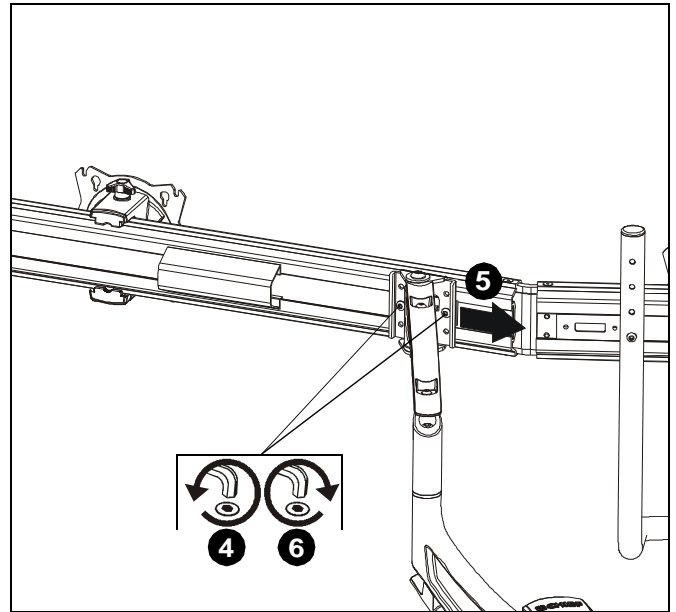

Figure 26
4. Loosen two screws holding column arms to outer array arms. (See Figure 26)
5. Lift up on array arm slightly and slide connection plate towards the inside of the array until an even mount is achieved. (See Figure 26)
6. Tighten two screws holding column arms to outer array arms. (See Figure 26)